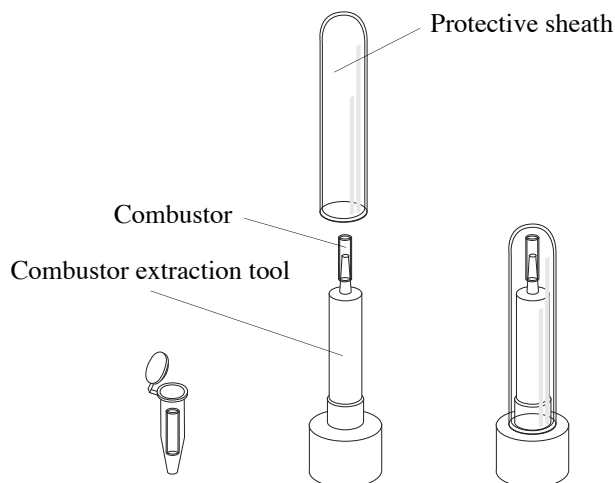

Figure 4.36. Extractor tool
- Remove any previously installed combustor (PN 282939C for the 2-mm combustor, PN 282913C for the 3-mm combustor) from within the detector body using the supplied Teflon combustor extraction tool (PN 280719 for the 2-mm combustor, PN 280727 for the 3-mm combustor). Remove the combustor extraction tool from its protective sheath and gently press its conical tip into the combustor top, which is located just below the upper surface of the detector body. Carefully extract the combustor and immediately reinsert the combustor extraction tool and attached combustor into the combustor extraction protective sheath (Figure 4.36).